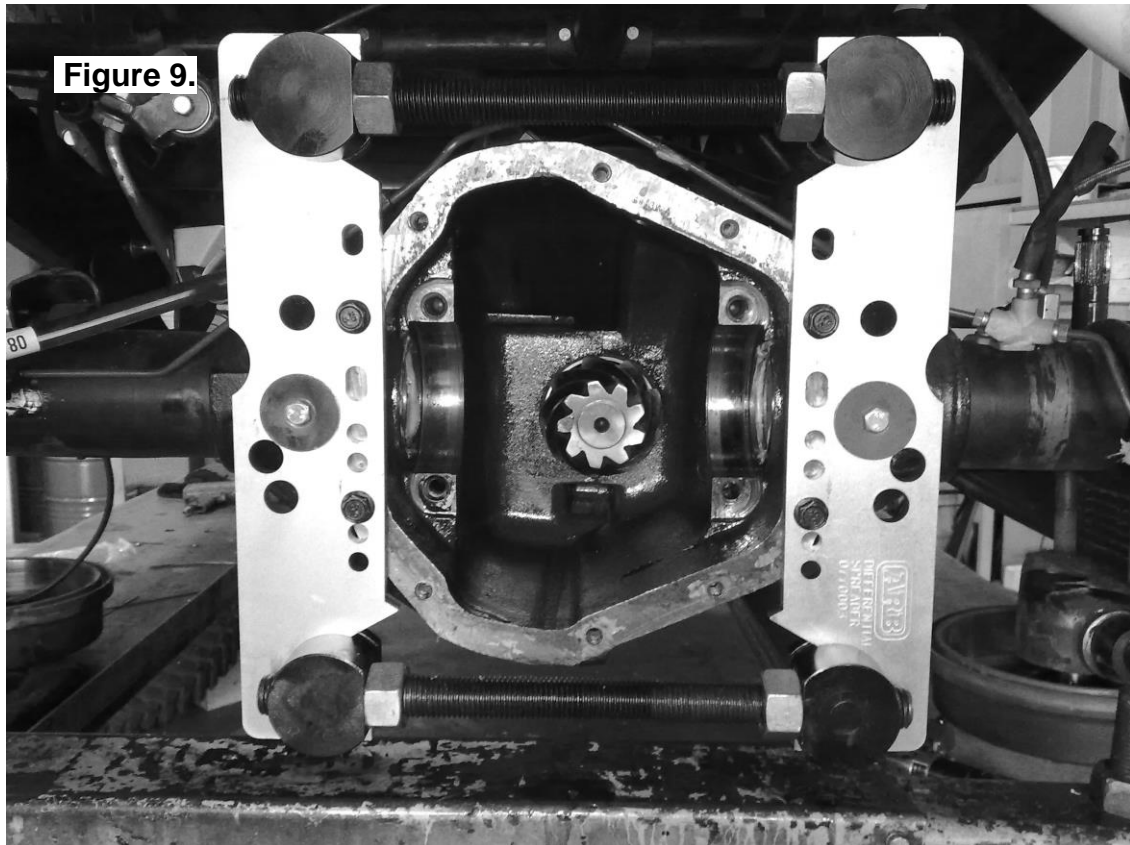

Figure 9.
- Set up a spreader as shown in Fig 9.
- Carefully spread the housing (Fig 9.) just enough to install the differential carrier (Refer to your vehicle's service manual).